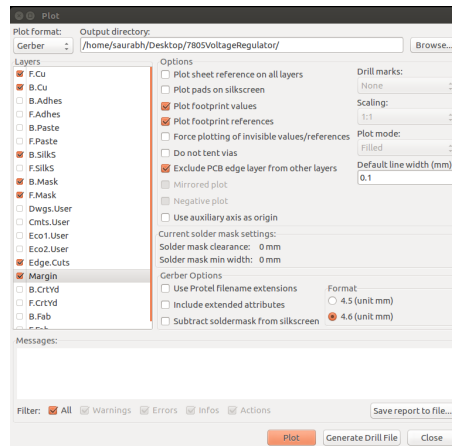

Figure 12.22: Plot Window before generating gerber files
3. Select F.Cu, B.Cu, B.Silks, F.Mask, B.Mask, Margin and Edge.Cuts from the *Layers* on the left side of the Plot window as shown in Fig. 12.22.